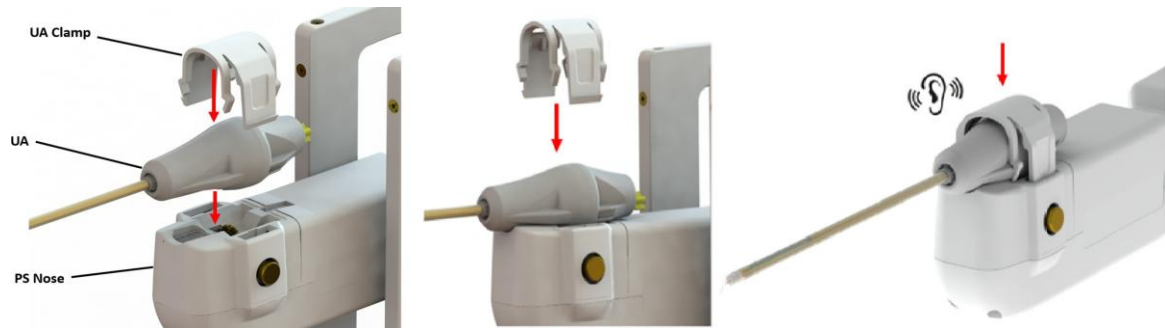

Figure 26: UA attachment to Positioning System
4. **MRI Technologist:** After locking the PS tilt and height, seat the UA in the PS nose and then secure it by pressing the UA clamp down over top of the UA until it is fully engaged with the PS nose. (*Figure 26*).